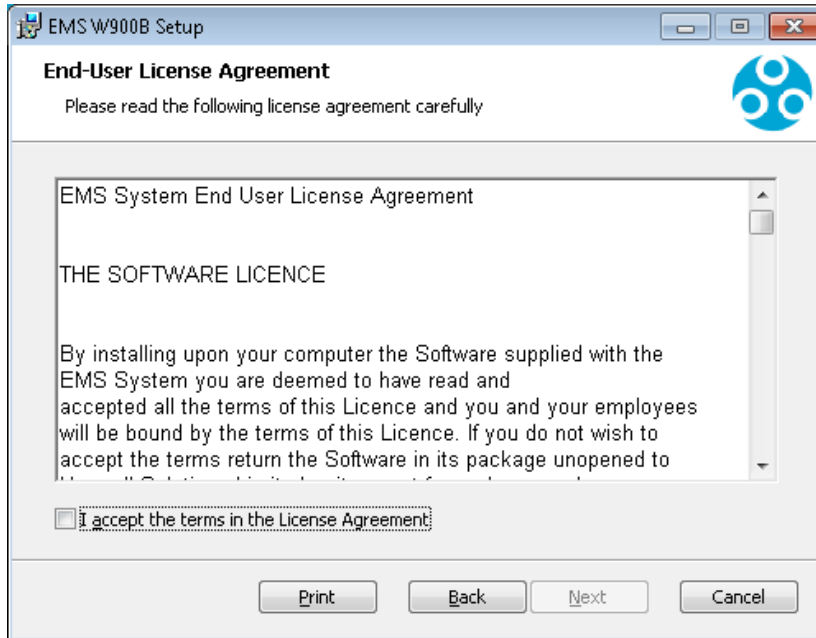

Figure 54
- In the displayed **EMS Server B Setup – End-User Licence Agreement** window, read the Licence terms and check the **I accept the terms in the Licence Agreement** box. See Figure 54 below: